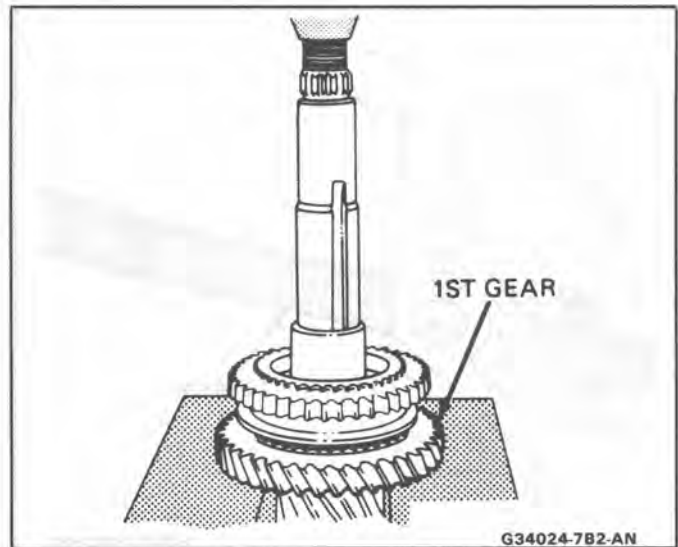

Fig. 25 Collar, Reverse and 1st Gear
4. Remove the collar, reverse gear assembly and 1st gear all together by the use of a press (Fig. 25).